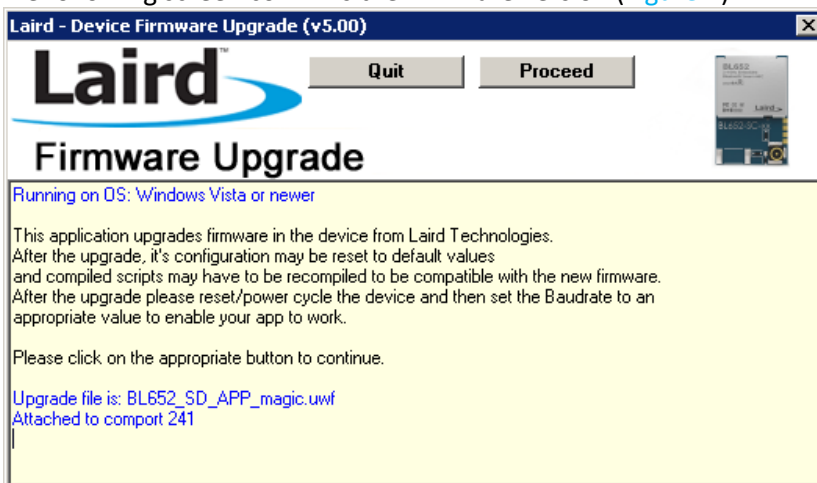

Figure 4: Screen confirming firmware version
11. The following screen confirms the firmware version (Figure 4).